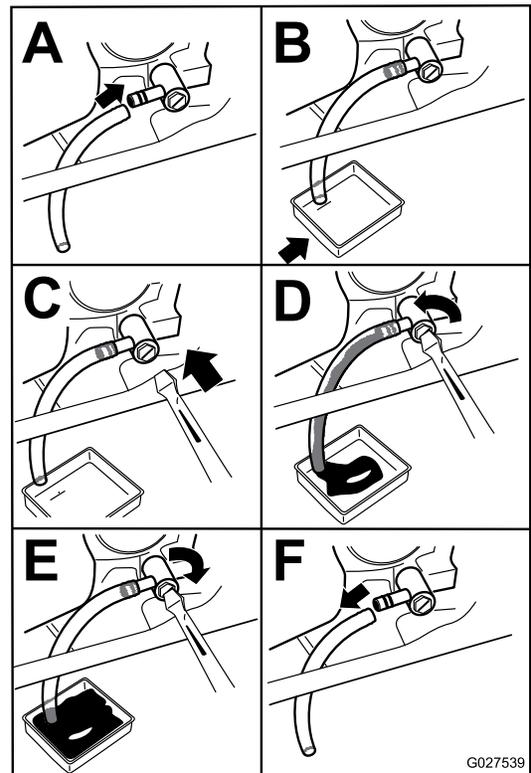

Figure 31
4. Drain the oil from the engine (Figure 31).